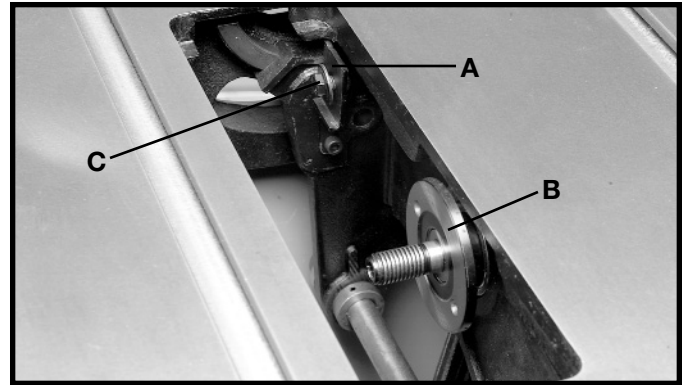
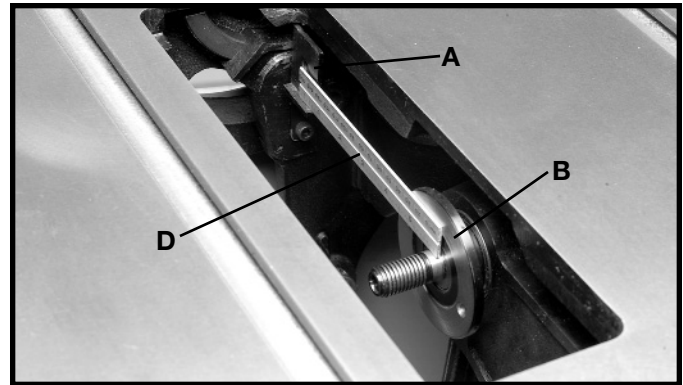
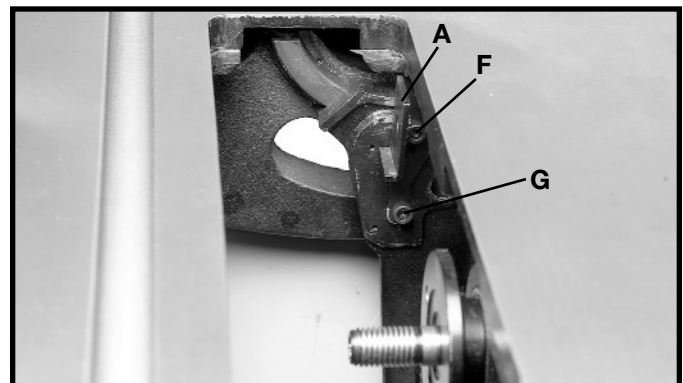

Fig. 9
Fig. 10
Fig. 11
2. The inside splitter mounting bracket (A) Fig. 9, is assembled to the inside of the saw and aligned with the inside blade flange (B) at the factory.
3. To check the alignment, remove screw and fastener plate (C) Fig. 9. Using a straight edge (D) Fig. 10, check to see if the splitter bracket (A) is aligned with the inside blade flange (B). Check both the top and bottom of bracket (A) with the top and bottom of flange (B).
4. If an adjustment is necessary, loosen screws (F) and (G) Fig. 11, and adjust splitter bracket (A) until it is aligned with the inside blade flange (B) Fig. 9. Tighten screws (F) and (G) Fig. 11. Loosely assemble screw and fastener plate (C), which were removed in **STEP 3, Fig. 9**.